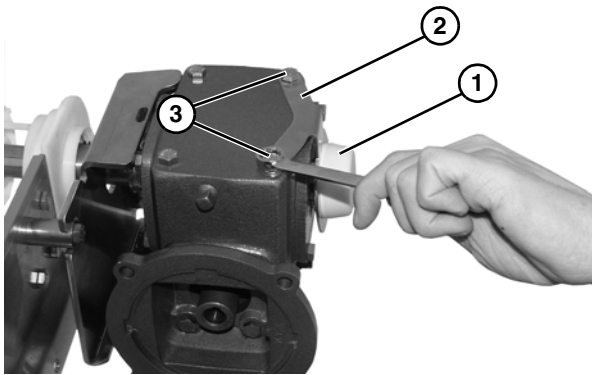

Figure 7
5. Install gear reducer output shaft cover (Figure 7, item 1).
6. Install cover bracket (Figure 7, item 2) onto gear reducer with screws (Figure 7, item 3).